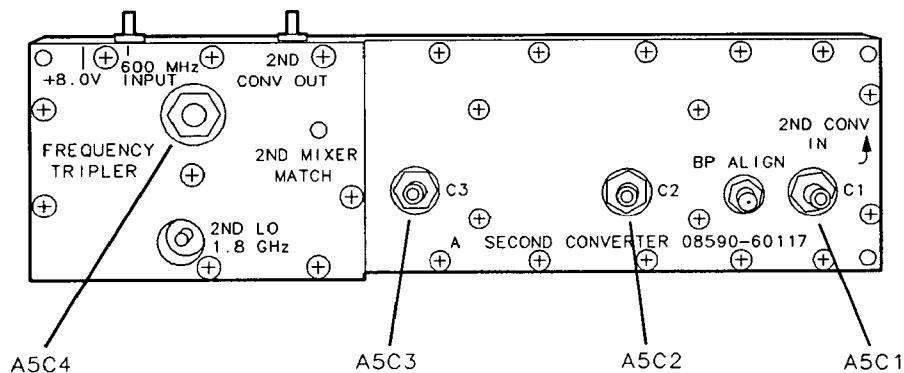
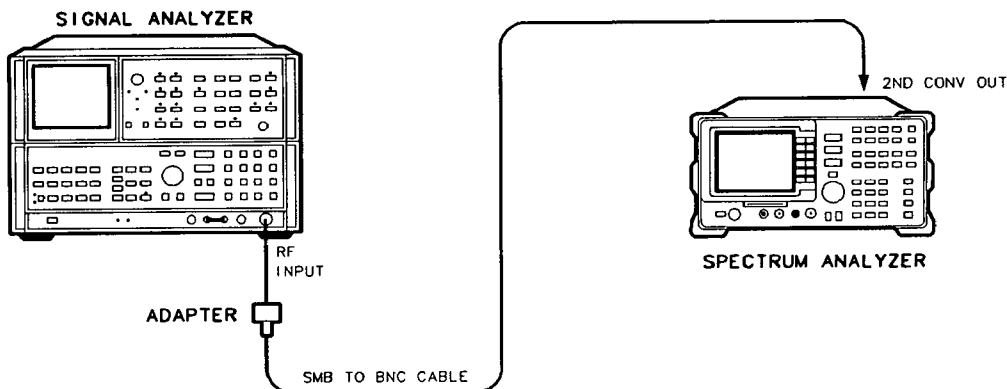

Figure 2-19. Second Converter Adjustment Location
Figure 2-21. Second Mixer Match Adjustment Setup
- Use the tuning tool to adjust A5C4 FREQUENCY TRIPLER (see Figure 2-19) for maximum signal amplitude as observed on the spectrum analyzer. Readjust the reference level of the HP 8566A/B as necessary to keep the signal on screen. The 1.8 GHz signal should be -19 dBm to -24 dBm.
15. After removing W10, connect the HP 8566A/B to the 2ND CONV OUT port (see Figure 2-19) using the test cable. See Figure 2-21.
17. Adjust A5 2ND MIXER MATCH (refer to Figure 2-19) for maximum amplitude as displayed on the HP 8566A/B. Adjust the reference level as necessary to keep the signal near top-screen.